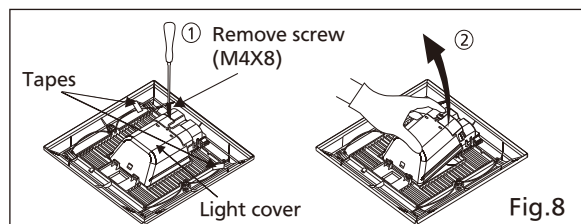

Fig.8
10. Remove the tapes from louver and springs before installation. Remove screw (M4X8) and light cover. (Fig.8)